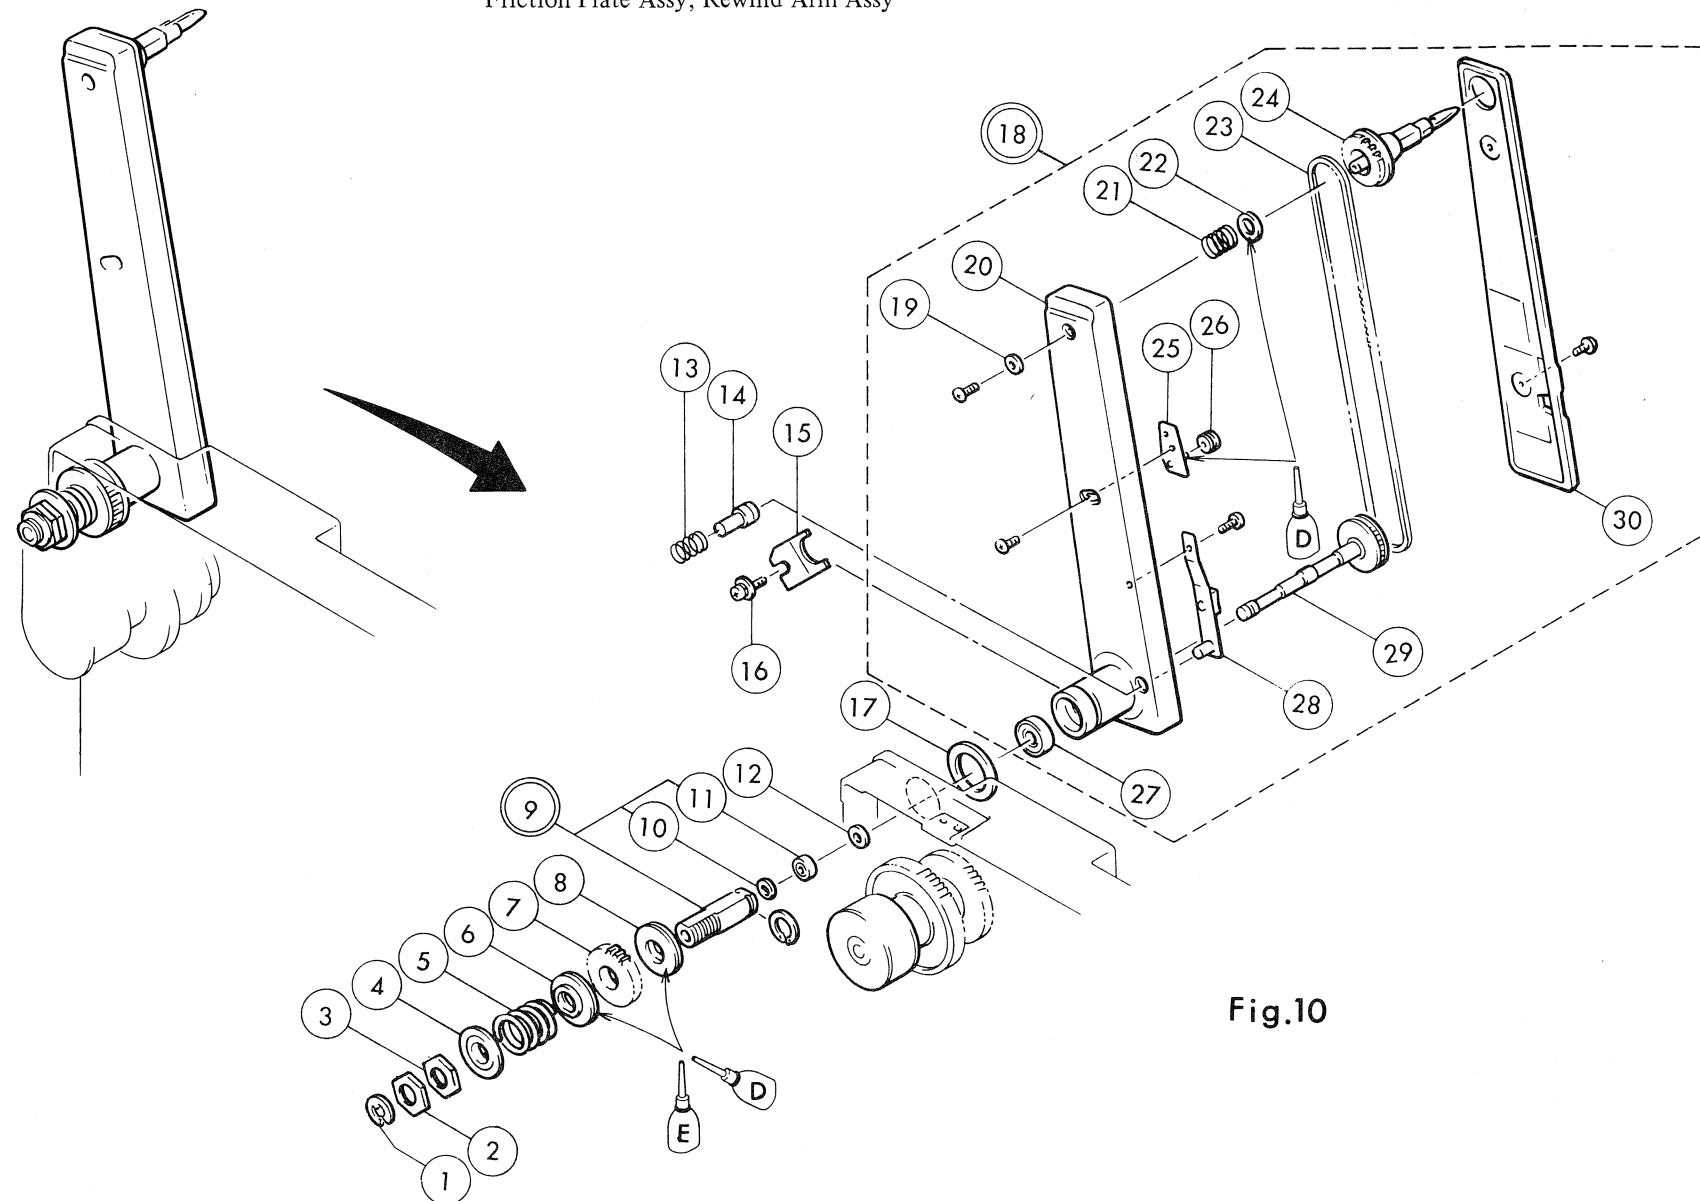

Fig.10
1. Take off ① to remove the assy parts ② ~ ⑪. See Fig. 10 for disassembly.
2. Remove ⑫.
3. Pull out ⑯ to remove ⑮.
4. Set the knob main to " □ " to pull out ⑯.
5. Refer to Fig. 10 for further disassembly.